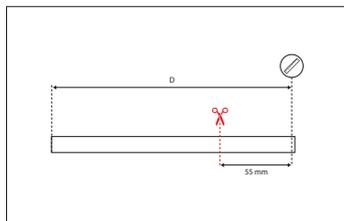

Abb. 28: Sensor arm middle position
3. Shorten the rubber cover on the threaded rod. The length of the rubber cover must be 55 mm less than the distance [D] measured in point 1 (Fig. 28).